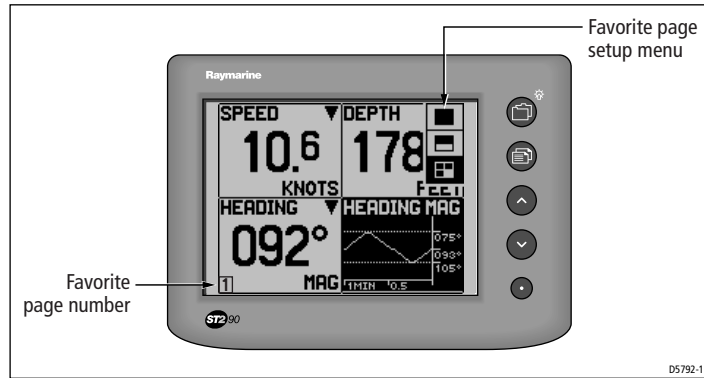

Figure 2-10: Favorite page format menu
3. Hold down the  button for 1 second to enter Favorite page edit mode, with the Favorite page setup menu displayed (*Figure 2-10*).